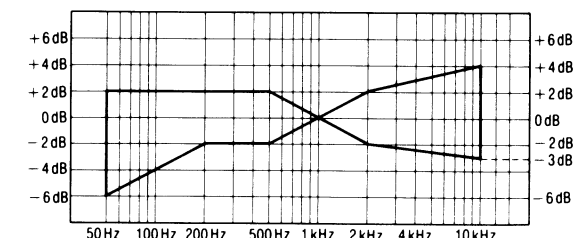

Fig. 9
5. Playback the recorded signal and assure that it is within the range shown in Fig. 9 in comparison to the reference frequency (1 kHz).